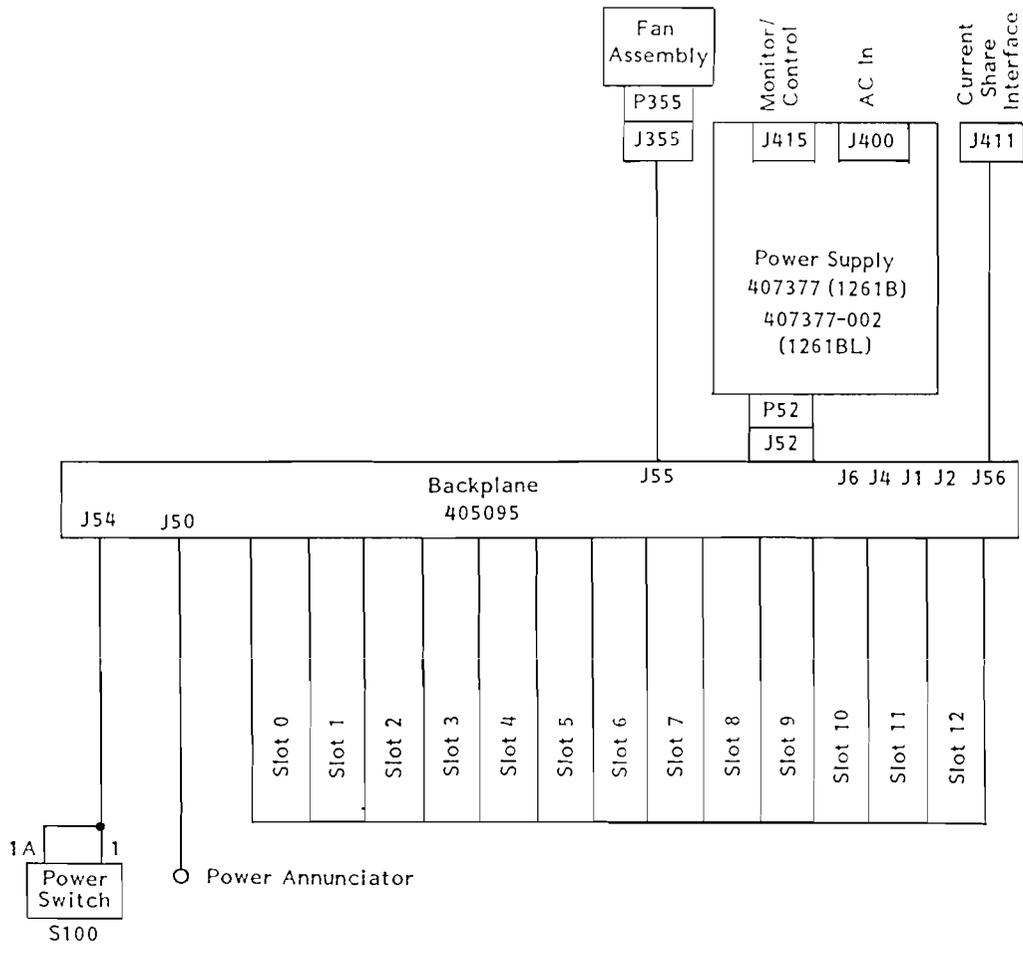

Figure 4-1 Functional Block Diagram for 1261B/BL Mainframe
**Figure 4-1** shows the functional block diagram of the 1261B/BL Mainframe.